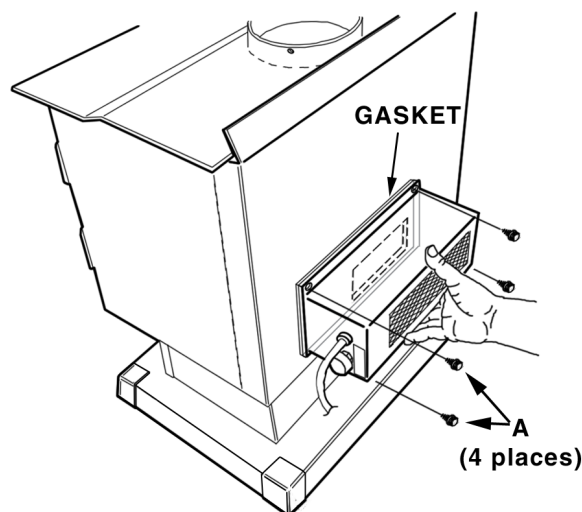

Figure 3 – Attach Optional Blower to Stove Body
1. For Optional Blower Assembly, note the position of the blower opening in the rear of the stove (fig. 3).